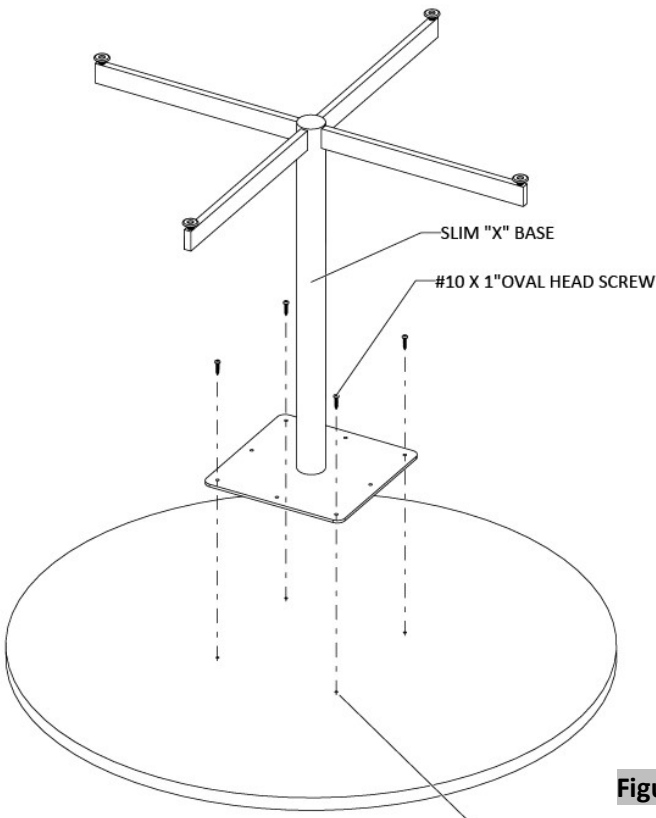

Figure 2
- 2. Position the slim “X” base using the pre-drilled positioning holes and attach it to round table top using #10 X 1” Oval Head Screws, (Figure 2).